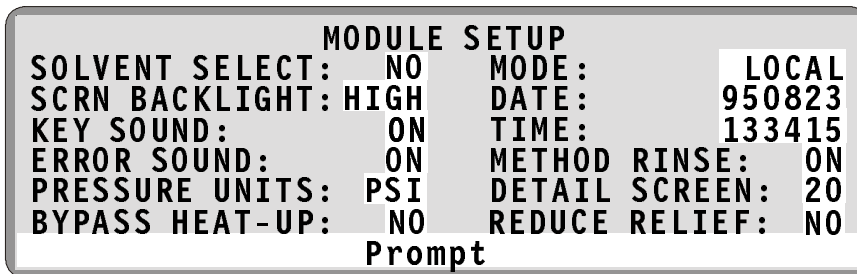

Figure 3-4. Module Setup Screen (Method Rinse On)
3. Move the cursor to the **METHOD RINSE** field and press a **Select** button to toggle the field to **ON** (see Figure 3-4). Press **Enter** or a cursor arrow button. A rinse cycle is then performed after each sample extraction run. Method rinse remains the default until toggled off from the **MODULE SETUP** screen.